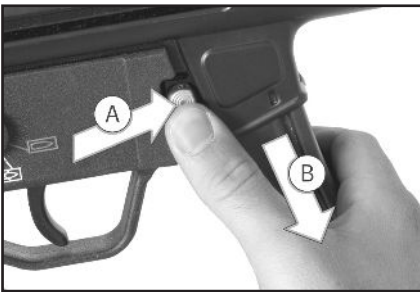

Fig. 17 – Remove the magazine
2. Remove the magazine. Depress the magazine release button on the right side of the receiver (Fig. 17 Ⓐ) and remove the magazine from the magazine well (Fig. 17 Ⓑ).